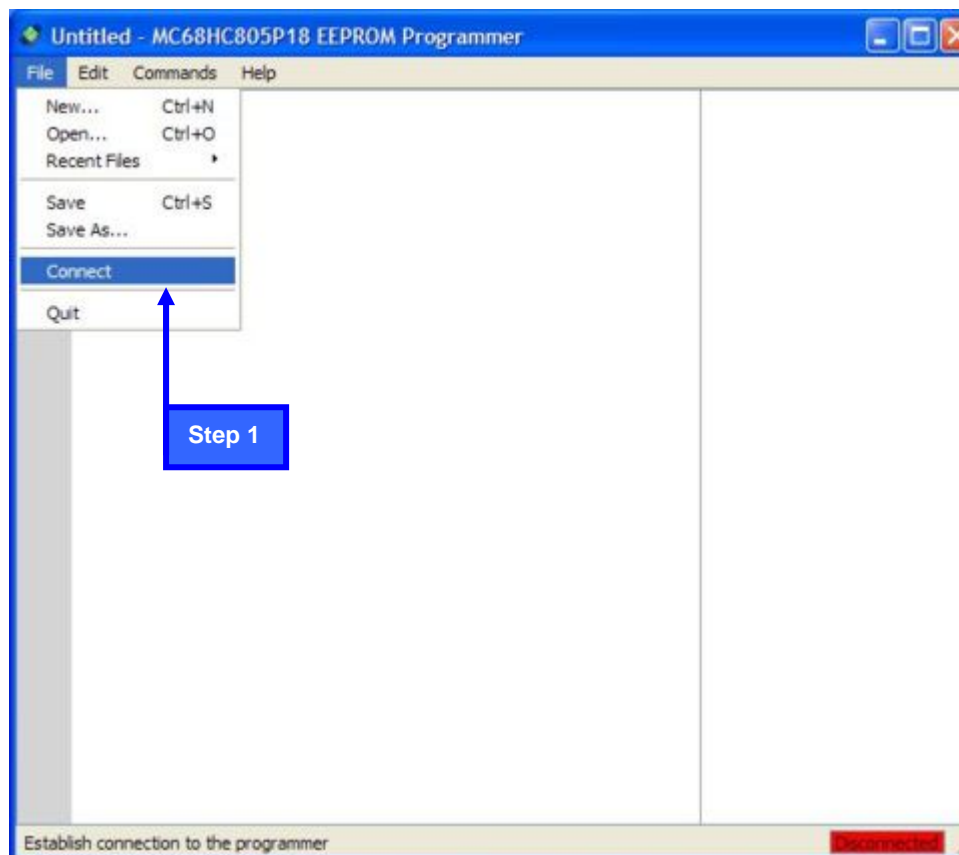

Figure 2
- ▶ Apply power supply DC 10-12V to the P18-Programmer Make sure that the READ / READY LED is lit. Start P18-Programmer software and click Connect menu button Step 1; Figure 2